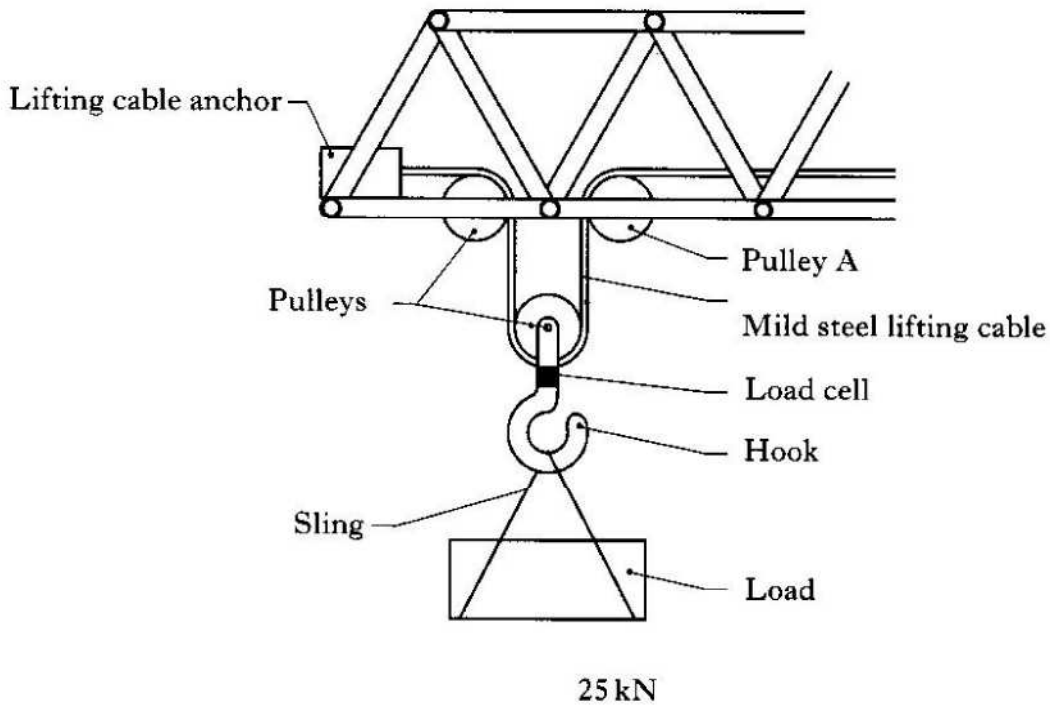

Figure Q10(a)
10. A tower crane transports loads of 25 kN or less on a building site. Figure Q10(a) shows the lifting mechanism. The design specified a **mild-steel** lifting cable with a factor of safety of 6.